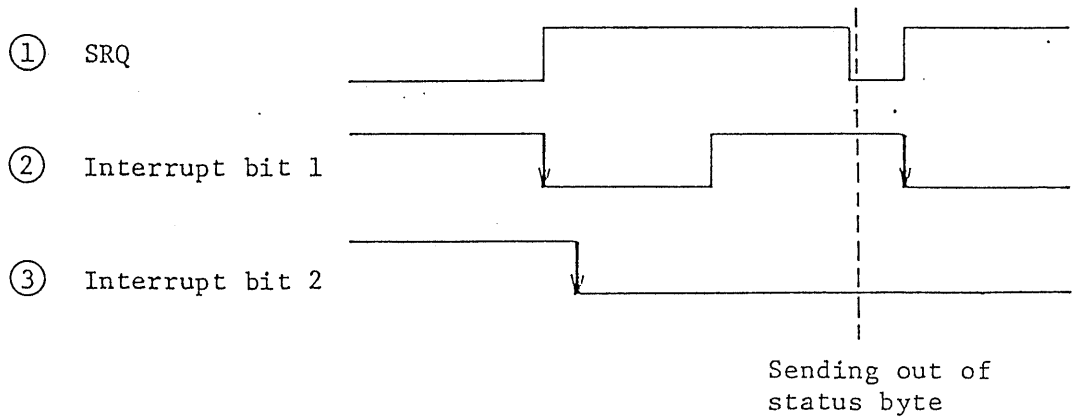
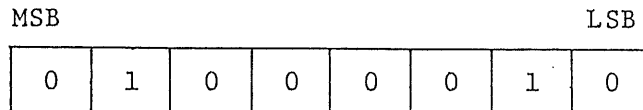

Figure 3-17
Figure 3-19
An SRQ signal is generated as a logical sum signal (OR signal) of the service request signals of the DPO2212. Also, a status byte signal is sent onto the GP-IB bus in response to serial poll. The signals are of the negative logic (the L level is active) and an SRQ signal is generated at the fall down edge of the signal from H level to the L level. Timing of interruption is shown in Figure 3-17.
- o In the case of the example shown in Figure 3-17, the status byte is as shown in Figure 3-19.